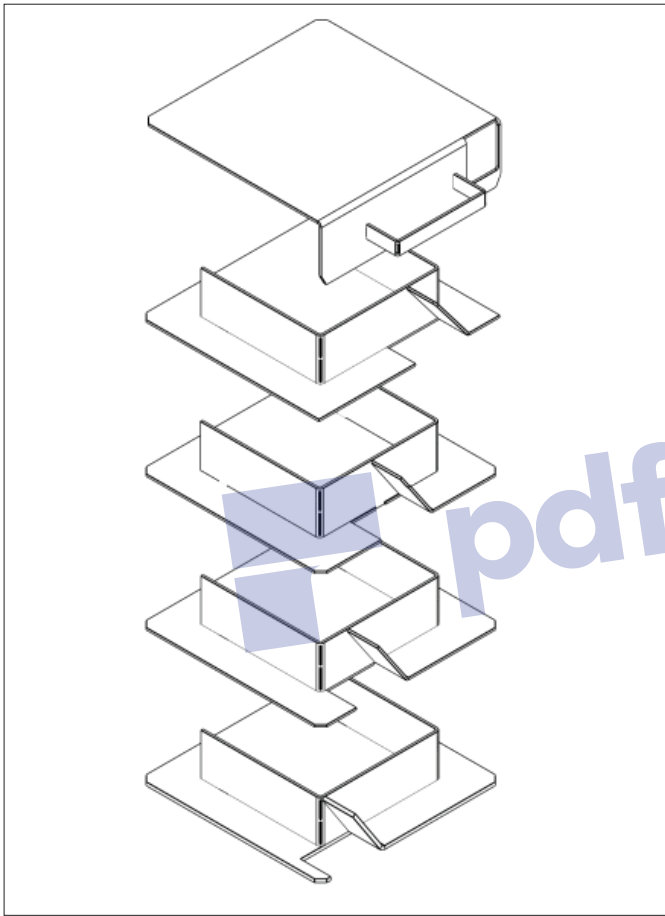

Figure 10-2: 18kw and 24kw deflectors
2. Lift the upper front panel and remove it from the boiler. See Figure 10-2.